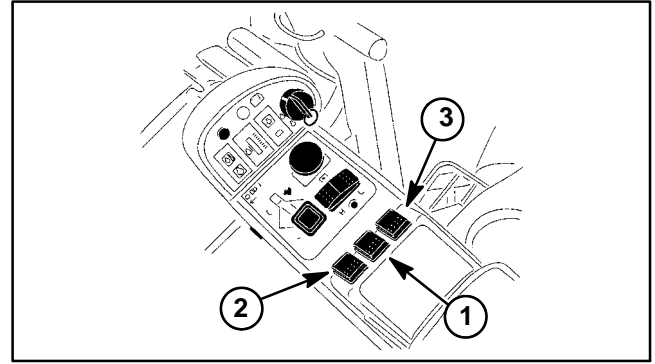

Figure 16
The Groundsmaster 4700-D has three (3) lift switches to control the cutting decks (Fig. 16). The center switch is for the five (5) center decks, the left switch controls the left, rear deck (#6) and the right switch controls the right, rear deck (#7) (Fig. 17).